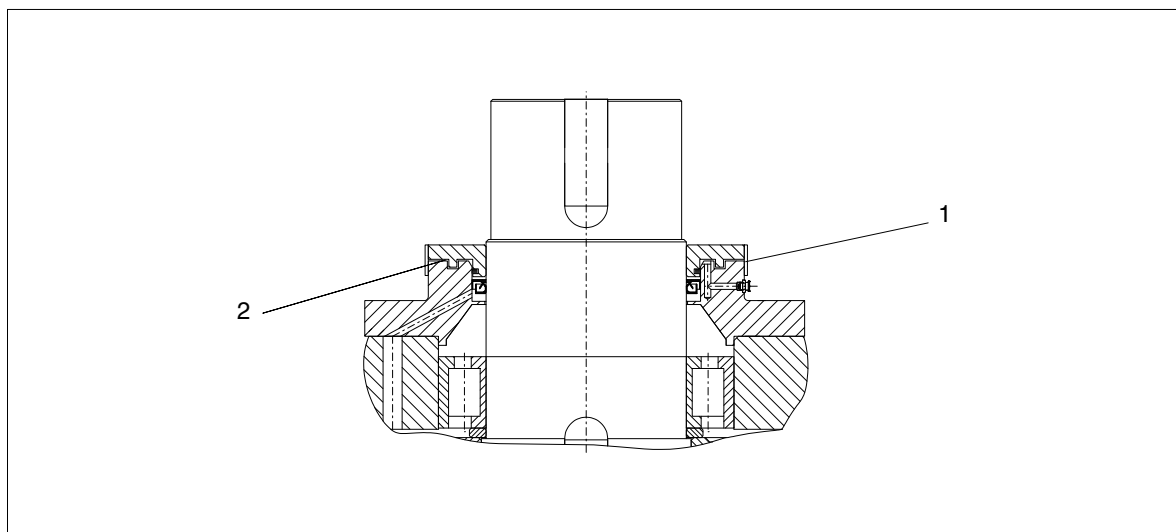

Fig. 8: Tacolab seal
¹⁾ In case of Tacolab seal only (see item 5.7.3 and/or figure 8).